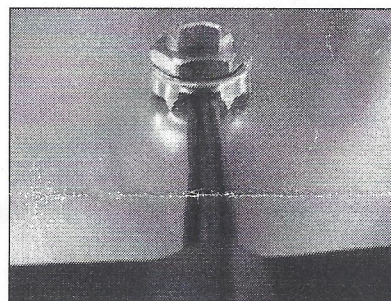

FIGURE 3: CABLE ROUTING
10. Attach and thread the Lock Washer-Nut to the threaded stanchion using hand torque only until toothed lock washer stops against the bottom side of the mounting surface. See FIGURE 3.